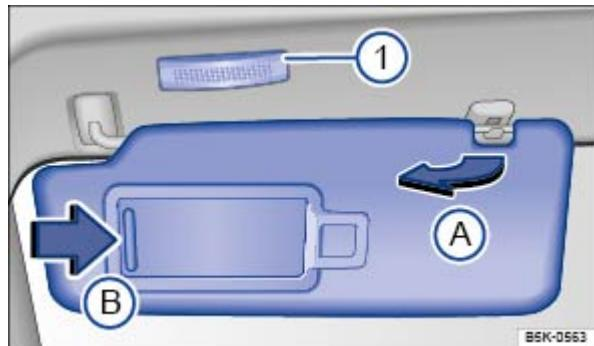

Fig. 99 Sun visor.
- Lift it out of the retaining clip ⇒ Fig. 99(A).
A vanity mirror is behind a cover in the sun visor. When you slide the cover open ⇒ Fig. 99(B) , the light ⇒ Fig. 99① comes on.